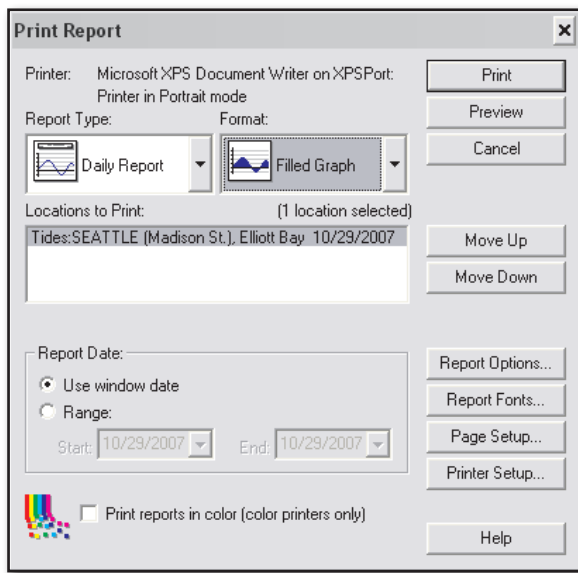

Figure 25.2 - Tides & Currents - Print Options Dialog Box
- Using the Tides & Currents print options dialog box (see **Figure 25.2**), select how you would like your tide or current printout to appear.